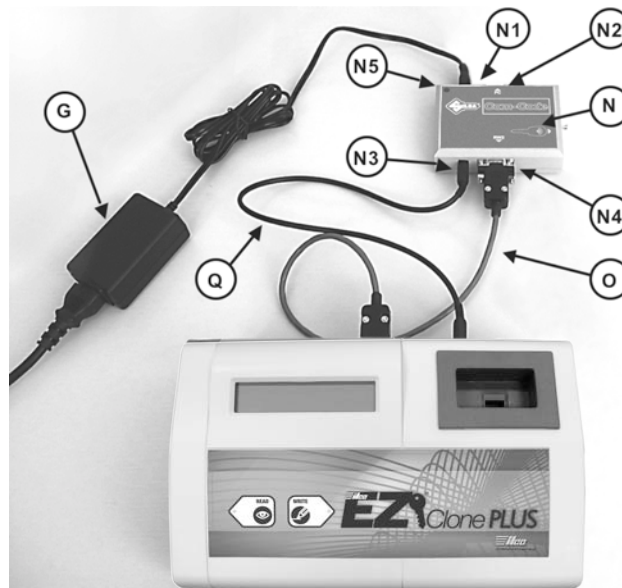
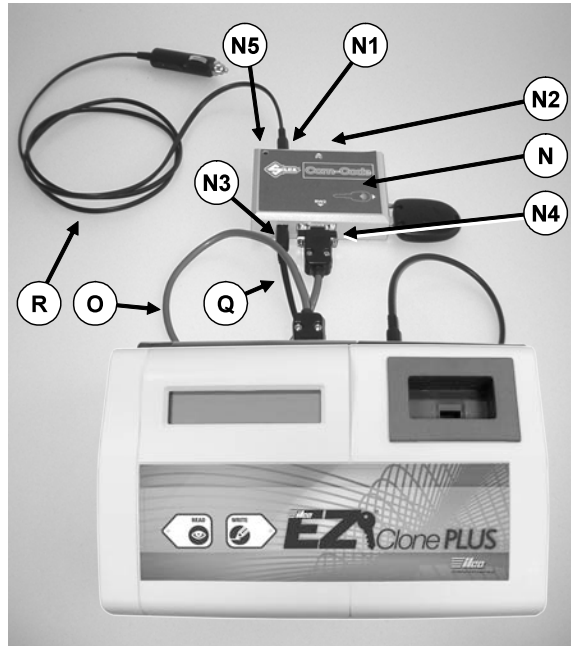

Fig. 6
Fig. 7
- R** power lead from vehicle cigarette lighter (provided with Com-Code module) (Fig. 7)
The two figures "Fig. 6" and "Fig. 7" show the various uses for the machine and module.